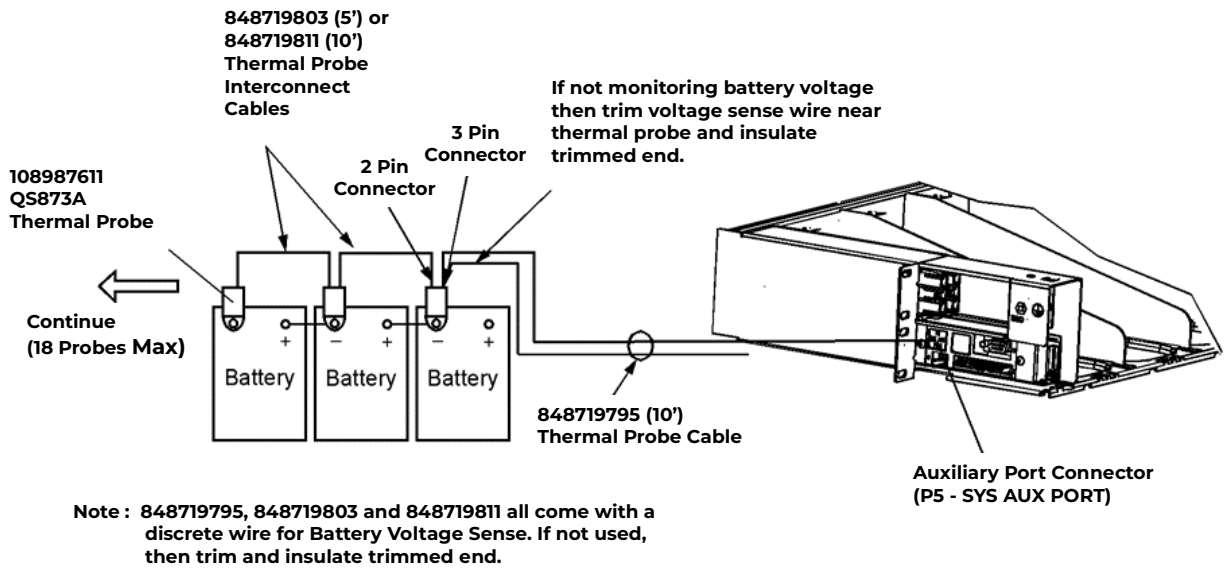

Figure 5-8: VT-Probe Connections to Controller
4.	Connect the other end of the Thermal Probe Cable to the controller P5- SYS AUXPORT connector. See Figure 5-8.
6.	<p>Yes - Using a interconnect cable connect the 2 pin connector to the first thermal probe and then connect the next probe with the 3 pin connector, daisy chain until all probes are connected. See Figure 5-8. Two interconnect cables are available; 5 foot cable 848719803 10 foot cable 848719811</p> <p>No - Complete.</p>